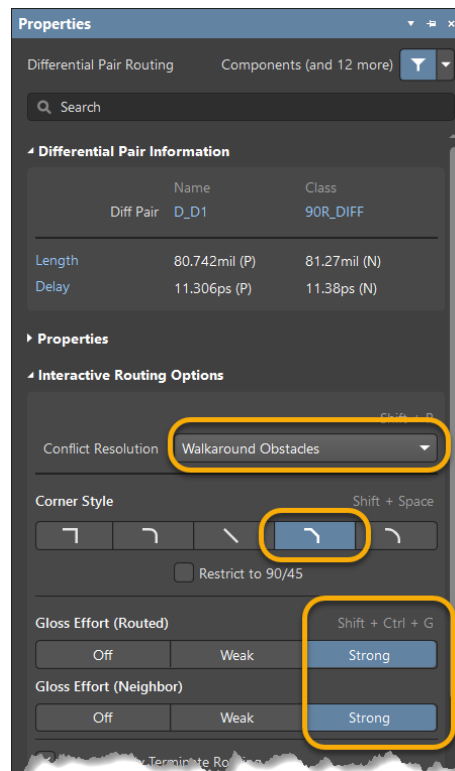

Figure 27. Differential Pair Routing Settings
61. Press the **Tab** key and set the routing properties, as shown in Figure 27.